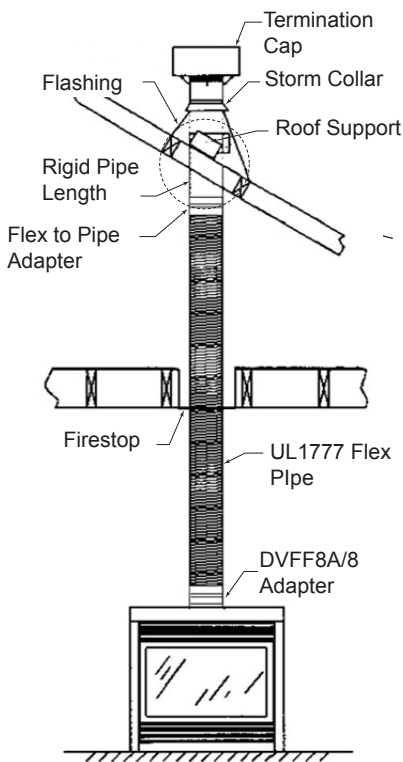

Figure 32 - Typical Vertical Flex Vent Installation
2. Install firestop spacers, *Figure 32*, when penetrating ceiling, attic spaces, or walls.
4. Use only listed and approved terminations and accessories, installed per the installation instructions and *Figure 32*.